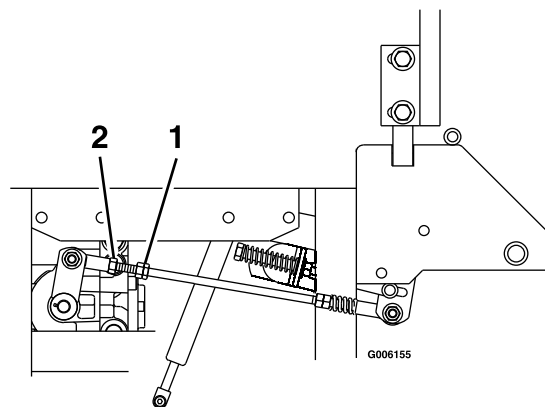

Figure 27
5. Loosen lock nuts from the ball joints at each end of the pump control linkage (Figure 27).
8. Bring the motion control lever into the neutral position. Adjust RH pump control rod length by rotating the double nuts on the rod in the appropriate direction until the wheels slightly creep in reverse (Figure 27). Move the motion control lever to the reverse position and while applying slight pressure to the lever allow the reverse indicator spring to bring the levers back to neutral. The wheel must stop turning or slightly creep in reverse. When adjustment is complete, tighten lock nuts onto ball joints.